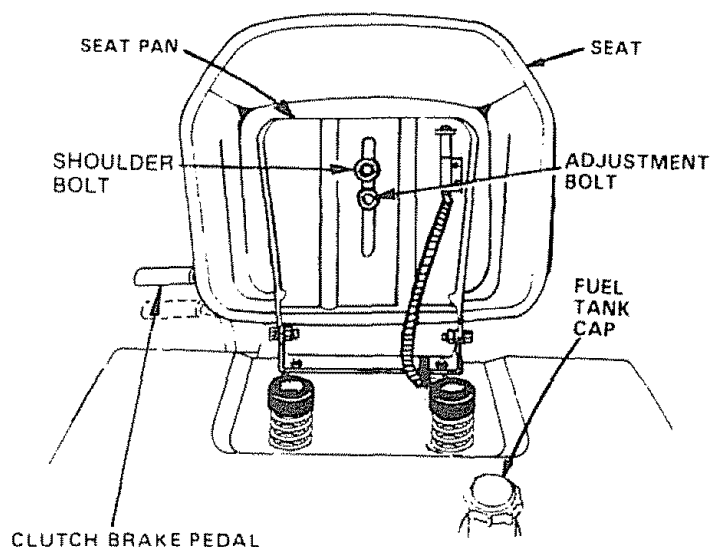

FIGURE 2
Seat position should be adjusted forward or backward so that the operator can comfortably reach Clutch/Brake Pedal and safely operate the tractor (Fig. 2)
- Place seat on seat pan. Screw hex head machine screw, lockwasher and flat washer into seat (Fig 2) Screw shoulder bolt and flat washer into seat (Fig 2) Machine screw, shoulder bolt and washers found in bag of parts (shown full size on page 6)